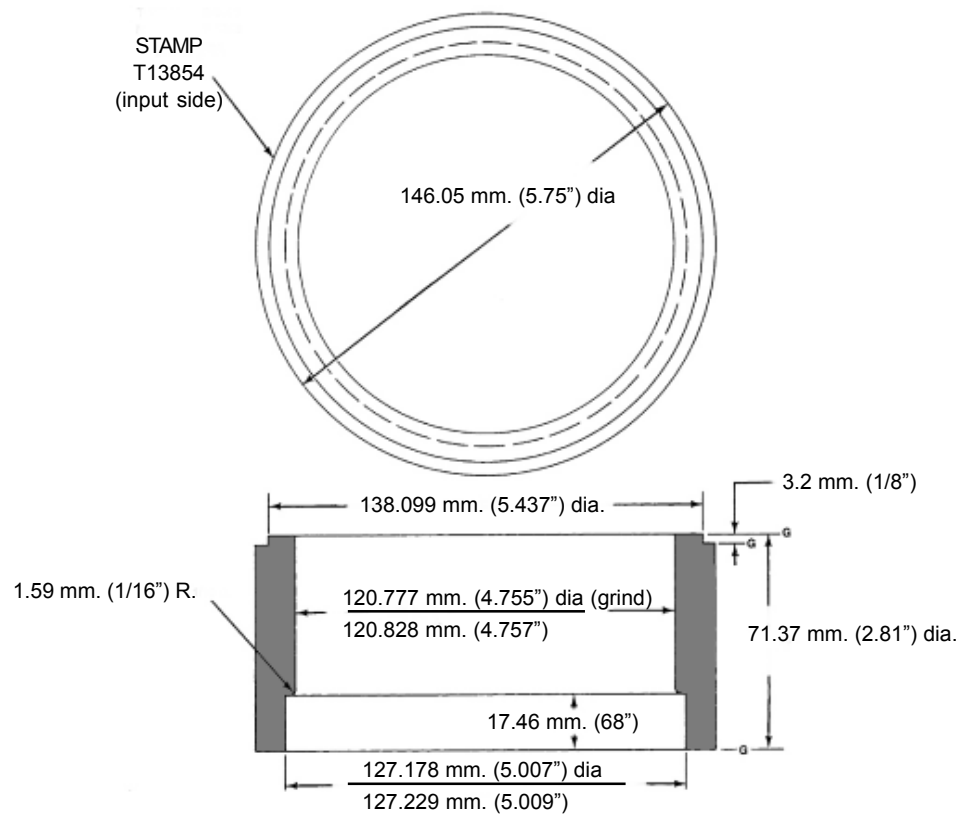
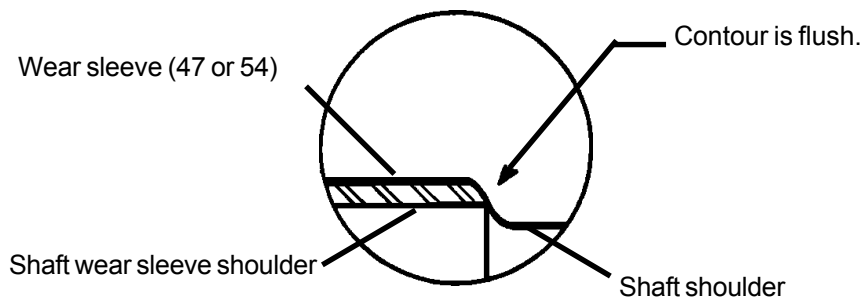

Figure 12. Sleeve Tool T-13854 (input side)
Figure 14. Locating the oil seal wear sleeves on the shaft
9. Coat the I.D. of wear sleeves (47 and 54) with an anaerobic sealant Twin Disc part number M2828. Using wear sleeve drivers T-13854 (input side) and T-13855 (output side) (See figures 12 and 13) press the sleeves onto the shaft, one from each end. Be sure the contours blend in with the shoulders of the clutch shaft. (See figure 14) Remove excess sealant when sleeves are in their proper positions on the shaft. Coat both seal lips with a light film of clean No. 30 engine oil.